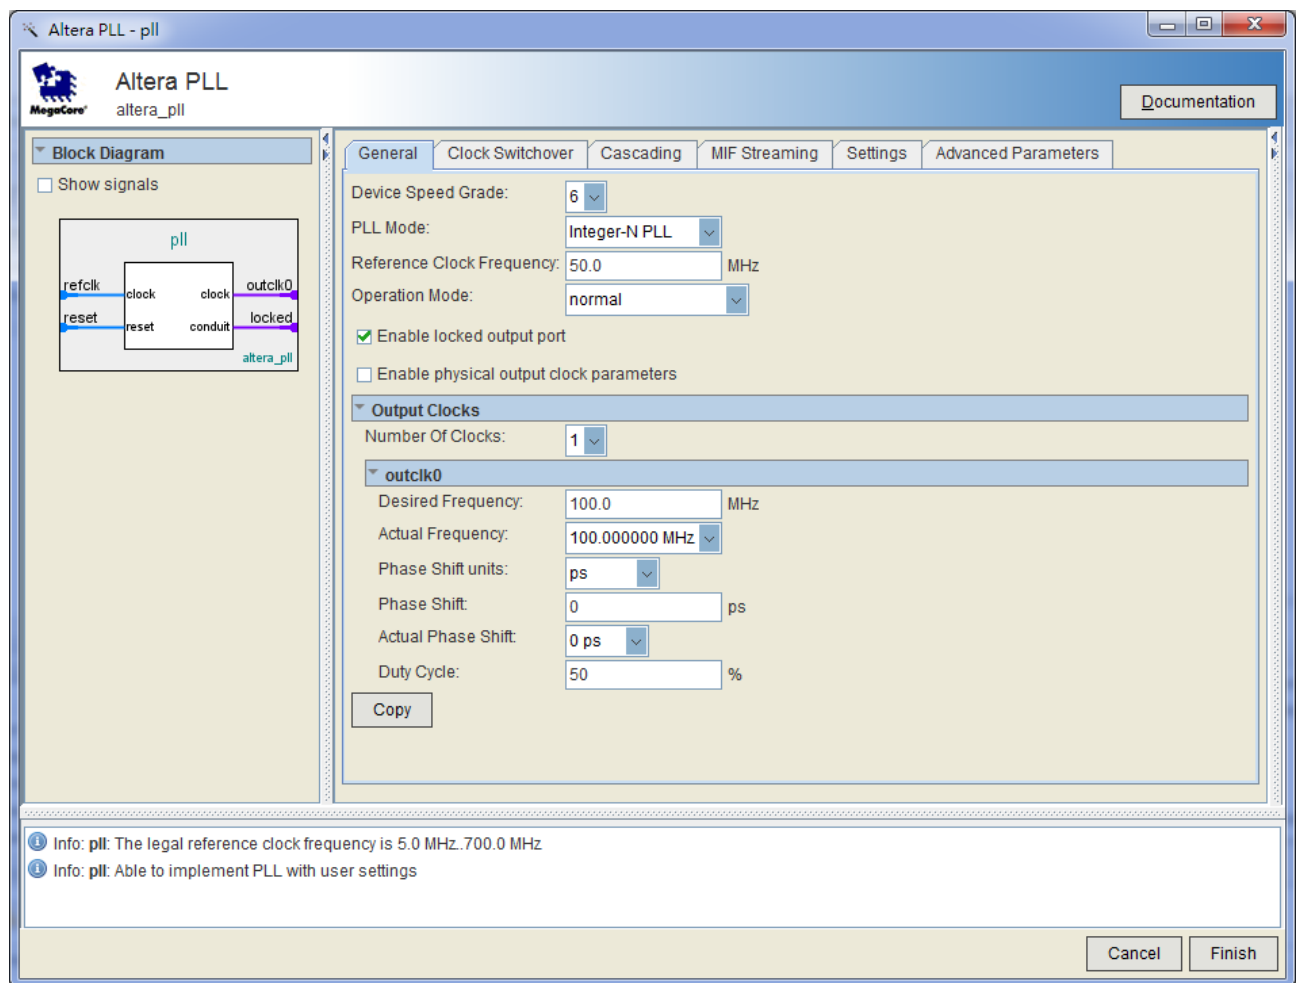

Figure 3-10 Selections of Altera PLL windows
5. In the Altera PLL windows, make the following selections (see Figure 3-10).